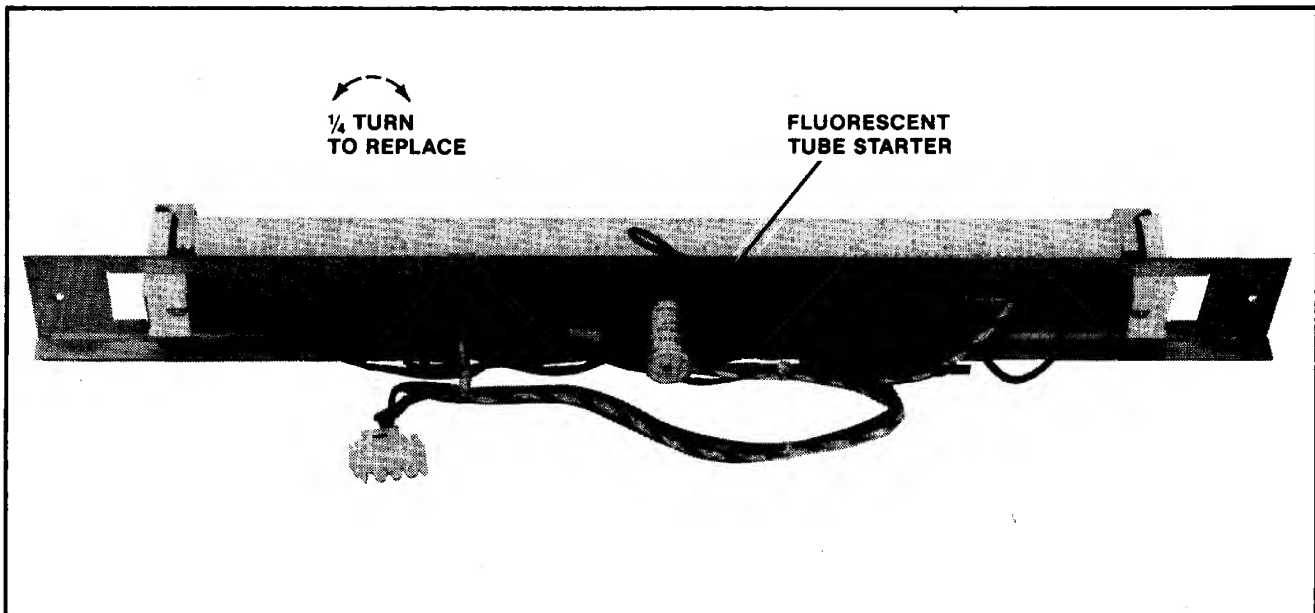

Figure 4-16 Replacing Fluorescent Tube Starter
- ☐ Replacing the fluorescent light tube starter. See Figure 4-16.